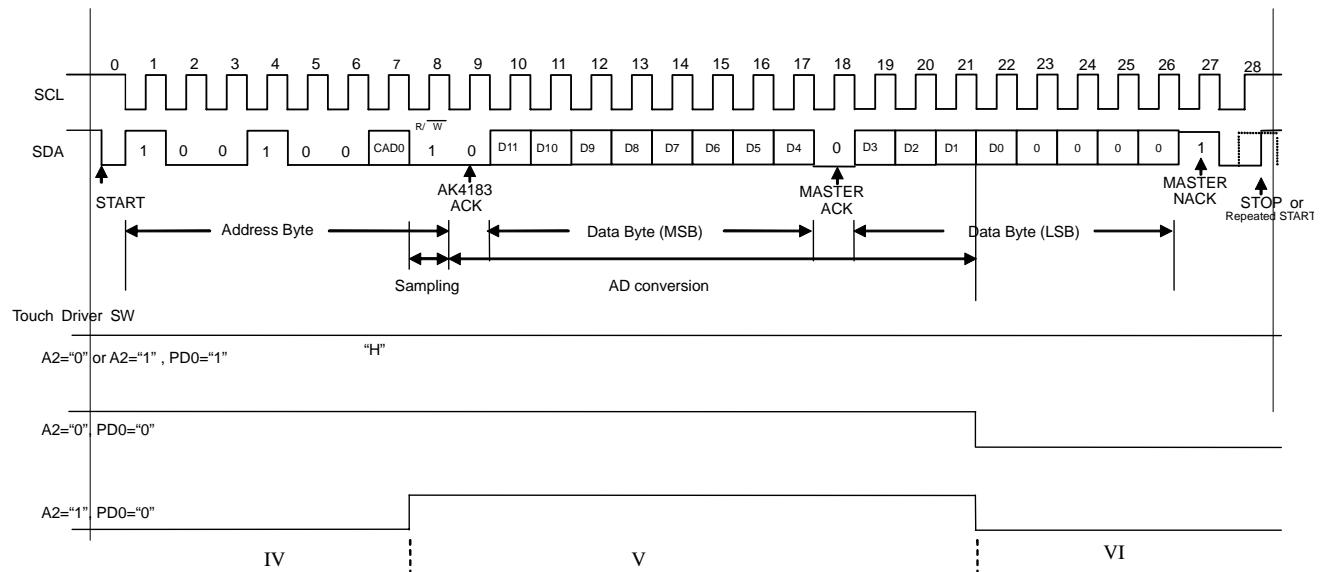

Figure 14 Read data Sequence
■ READ Operation Sequence (Figure 14)
The transition of PENIRQN is related to PD0 bit. PD0 bit is updated as shown below. (Please see “power-down control” for the detail. Once the control command with $\text{PD0} = "1"$ is sent the pen-interrupt function is disabled. The clock number under the write and the read operation refer to Figure 13 and Figure 14.